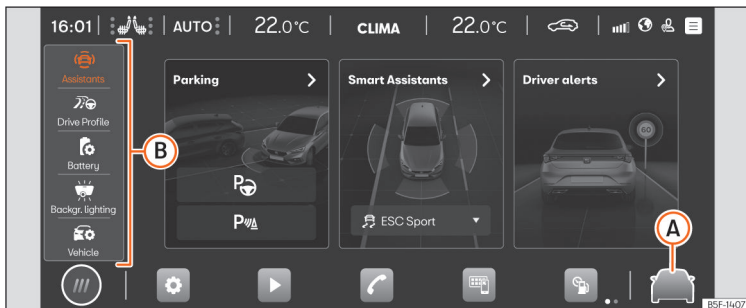

Fig. 17 Schematic diagram: Assistants and vehicle settings
Press **Fig. 17 (A)**, or **Vehicle settings** in the main menu to open the assistants and vehicle settings menu. Next, clicking on any of the menus located in the left area **(B)**, displays the settings menu or the selected assist systems on the display.